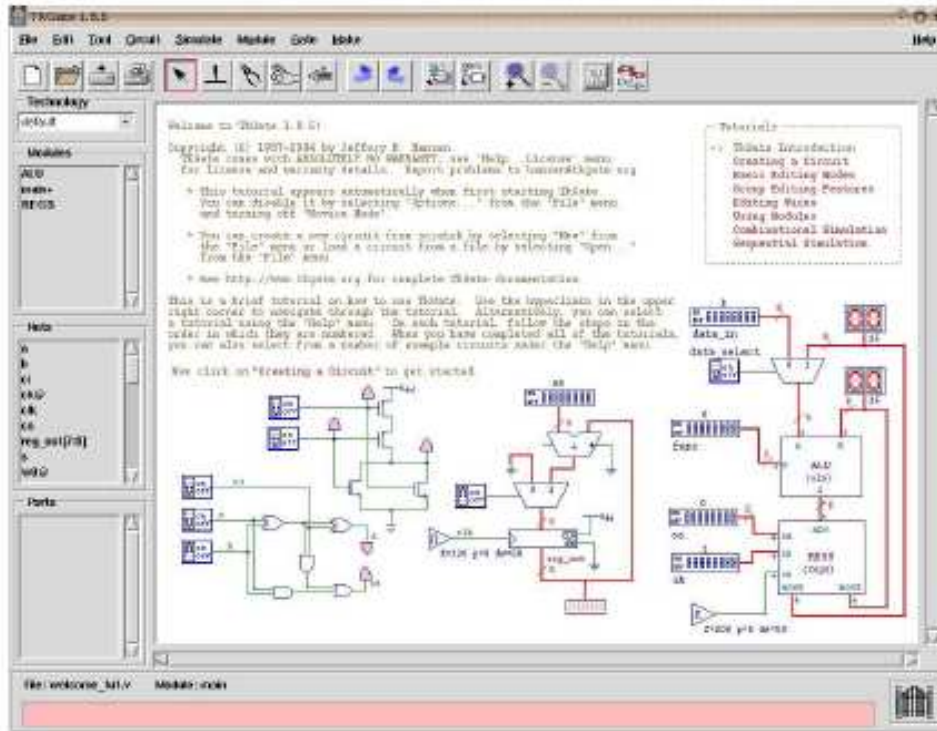

Figure 1: The TKGate window
1. Click on the TKGate button to start TKGate. This will bring up a window that looks like Figure1.